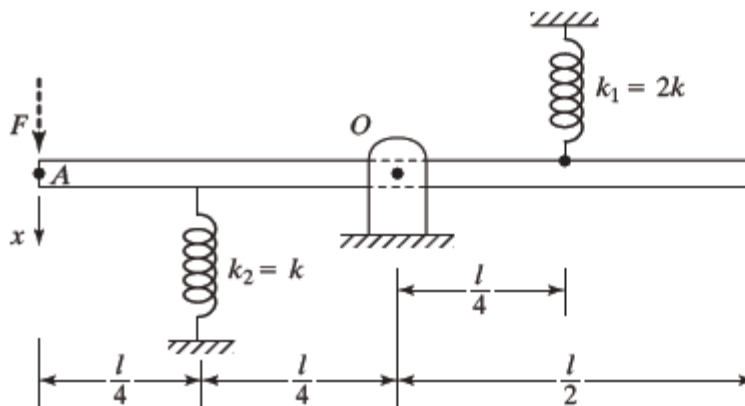

FIGURE 1.74 Rigid bar connected by springs.
1.18 The static equilibrium position of a massless rigid bar, hinged at point O and connected with springs k_1 and k_2 , is shown in Fig. 1.74. Assuming that the displacement (x) resulting from the application of a force F at point A is small, find the equivalent spring constant of the system, k_e , that relates the applied force F to the displacement x as $F = k_e x$.